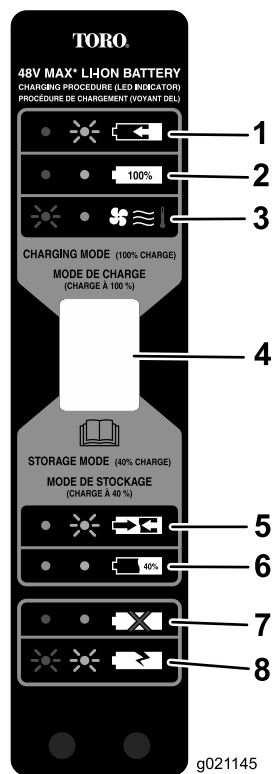

Figure 12
- Refer to Figure 12 to interpret the LED indicators on the battery charger.
Use storage mode (Figure 12) when the battery will not be used for 1 month or longer.
- When the battery is ready for storage (Figure 12, item 6.), remove the battery from the charger.